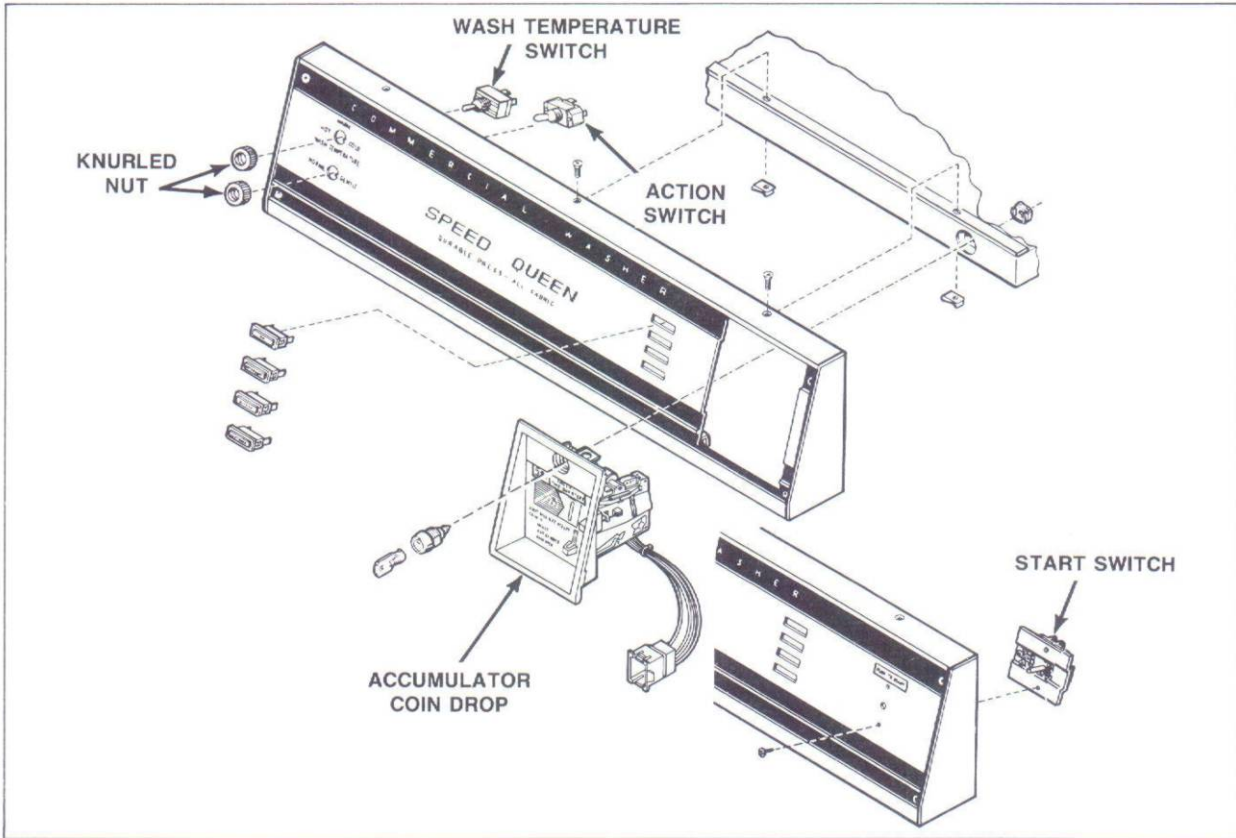

Figure 1
**1. ACCUMULATOR COIN DROP — Metered Models (Refer to Figure 1)**
**2. START SWITCH — Nonmetered Models** (*Refer to Figure 1*)
**3. CONTROL PANEL ASSEMBLY** (*Refer to Figure 1*)
**4. ON, DETERGENT, BLEACH OR SOFTENER LIGHT** (*Refer to Figure 1*)
**5. WASH TEMPERATURE OR ACTION SWITCH** (*Refer to Figure 1*)